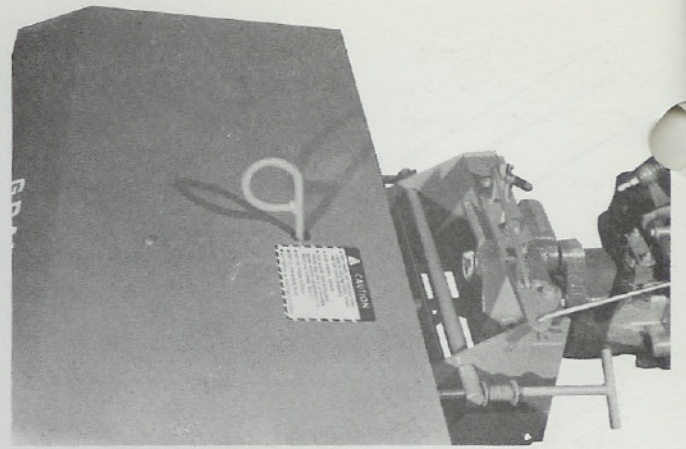

fig 3
5. Slide pivot pin of quick hitch through casting of brush and secure with washer and "klik" pin. Be sure special bolt and spacer go into hole of pivot casting. See fig 3.
6. Connect control rod to linkage on brush with hairpin cotter. See fig 3.